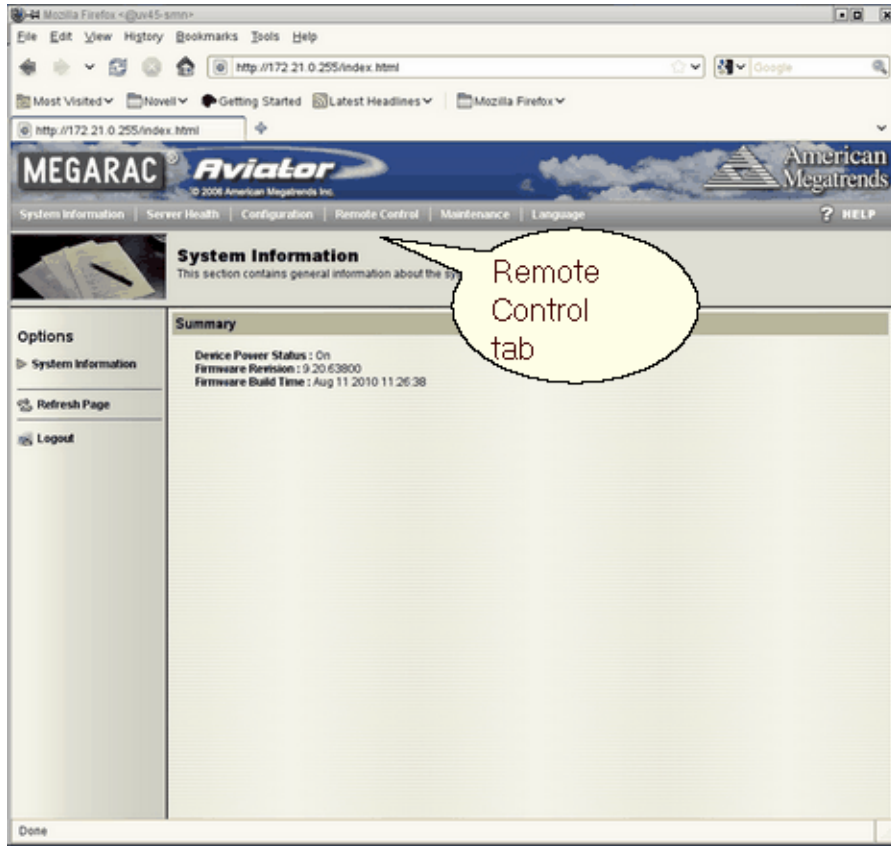

Figure 3-2 BMC System Information Screen
5. The **System Information** screen appears, as shown in Figure 3-2 on page 39. Click on the **Remote Control** tab.